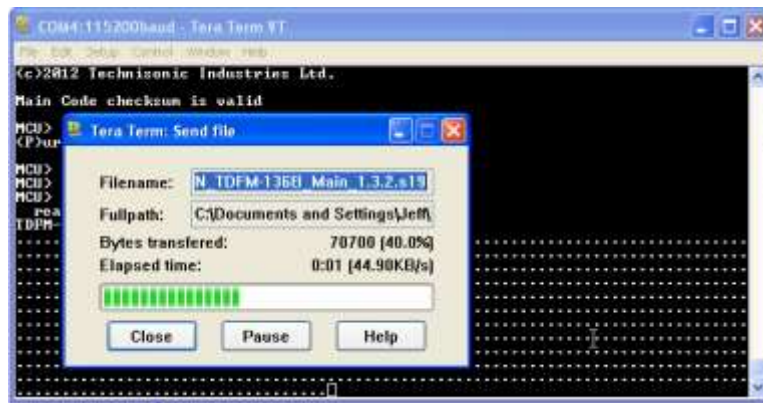

FIGURE 8: Downloading Software
- k) On the terminal program a stream of dots will be displayed as the data goes into the radio. Figure 8 shows the progress bar on the terminal while the download is in progress.